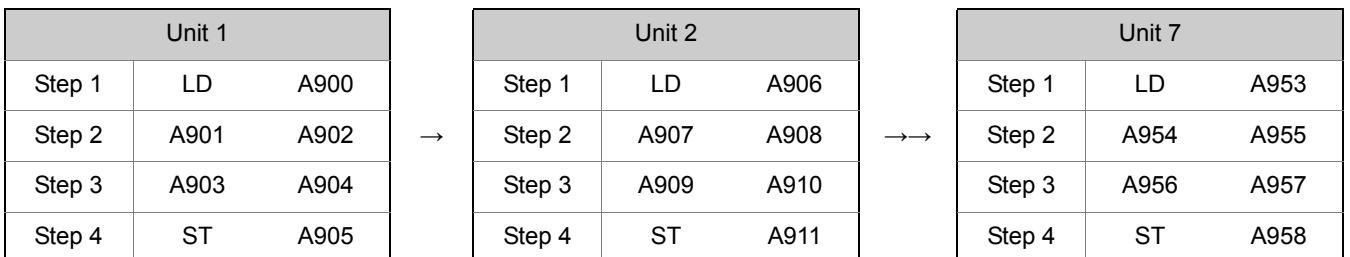

Fig. 4-1 My function block diagram
<A900> to <A982> consists of 4 steps x 7 units, and therefore there are 28 steps in total. See Fig.4-1 for the composition of each unit. Each unit begins with a data load (LD) command as step 1 and ends with a data store (ST) command as step 4. (You don't need to set LD command and ST command.) You set the commands and objects to step 2 and 3 in accordance with the requested functions.